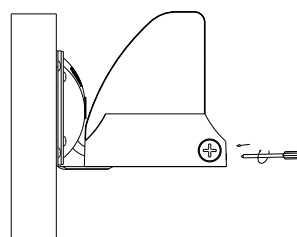

Figure 3-6
6. Push the wires into the junction box; after installation, tighten the screws. (Figure 3-6)